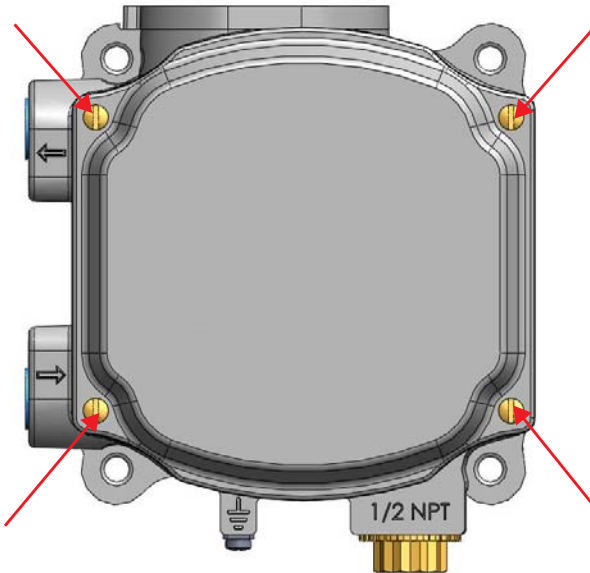

Figure 18 Front Cover
1. Loosen the four (4) cover screws and remove the SVi1000 cover (Figure 18).